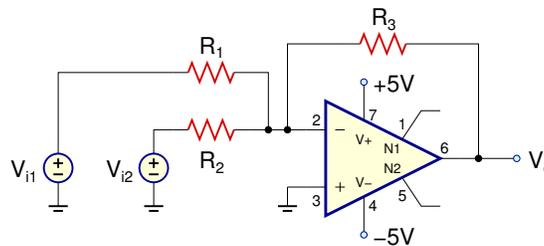

Figure 1: Summing amplifier circuit
An inverting amplifier can be modified to accommodate multiple input signals as shown in Fig. 1. Since the circuit is linear, the output voltage can easily be found by applying the superposition principle: the output voltage is a weighted sum of the two input signals. The weighting factor is determined by applying one of the input signals while the other is grounded and analyzing the resulting circuit. Since the circuit is linear, the analysis is repeated for the other input, and the final result is the addition of both signals. The advantage of this approach is that we can easily recognize the effect of each signal on the circuit's performance, and the overall output can be obtained in most of the cases by inspection. For the circuit in Fig. 1, the output voltage can be found as
The summing amplifier can be extended to have any number of input signals. Consider a two-bit digital signal applied to the inputs of the circuit in Fig. 1, resulting in an analog voltage at the output that is determined by the binary input. A more general configuration based on this circuit can be used to build digital-to-analog converters (DAC).
1. For the summing amplifier in Fig. 1, find  $R_1$  and  $R_2$  to have  $V_o = -(V_{i1} + 2V_{i2})$ , if  $R_3 = 15k\Omega$ .
1. Draw the schematics for the circuits in Figs. 1, 2, and 3 with the calculated component values using the UA741 opamp model.
1. Build the circuit in Fig. 1 with the simulated component values.